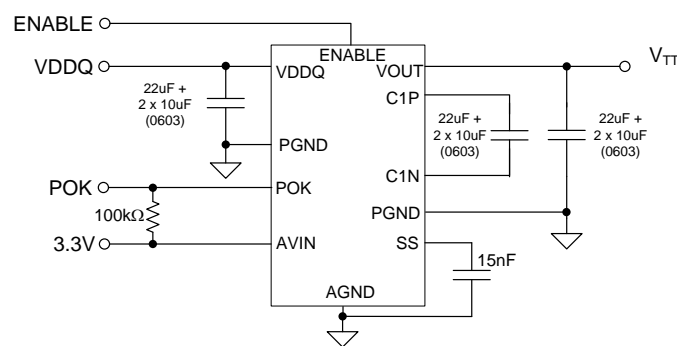

Figure 1: EV1320 Simplified Application Schematic
- The capacitor configuration around the EV1320 package determines how the device operates. For this evaluation board, the capacitors around the device have been chosen to minimize the output voltage droop as a function of load current. Please see Figure 1.